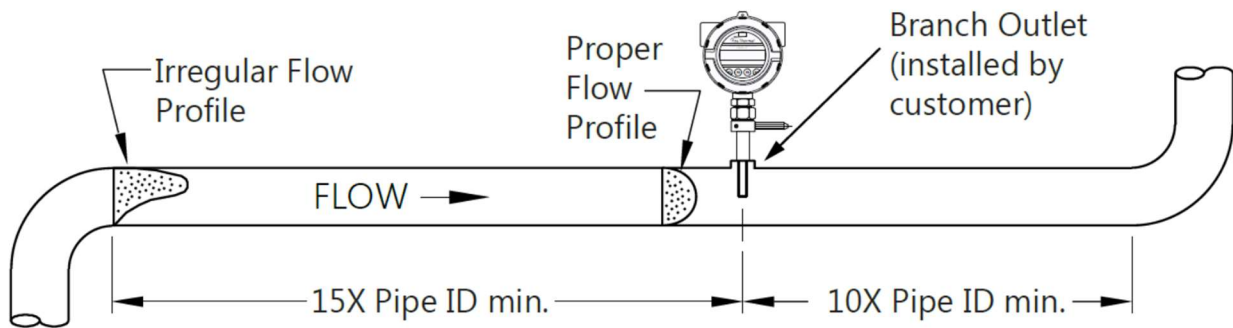

Figure 2: Necessary Amount of Straight Pipe for Mounting Flow Meter
1. The gas flow meter may be mounted in horizontal or vertical piping. The flow meter must be mounted at least 15 pipe diameters downstream of disturbances (elbows, reducers, etc.) and at least 10 pipe diameters upstream of disturbances. See Figure 2 below for the necessary distance of straight pipe upstream and downstream of the meter. If the meter is not mounted per the requirements below, unstable and inaccurate flow readings are likely to result.
20. For convenience, a diagram showing straight length requirements of the meter is also provided. To view this, tap the “Straight Length Requirements” button on the touch screen. This screen should look identical to Figure 2 in this literature.